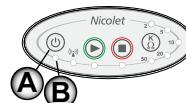

Figure 2
1. Press the **Power** button (A in Figure 2) for 12 seconds.